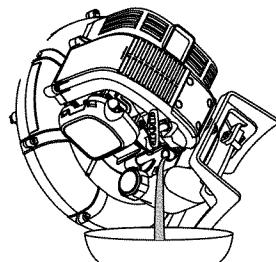

Fig. 21
- Pour the oil out of the oil fill hole and into a container by tipping the unit to the side (Fig. 21). Allow ample time for complete drainage.